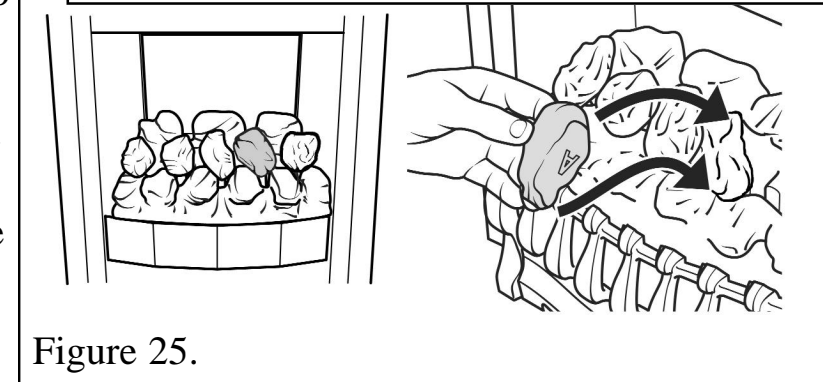

Figure 25.
7. Place the remaining type “A” coal between the front and rear base coals. The letter “A” should be upside down with its rear face between the right and centre coals of the rear base coal. Angle the coal so that the gap between it and the type “B” coal to its right is appreciably larger than the gap between it and the type “A” coal to its left but do not have it touching the type “A” coal. This will give the best flame effect (See figure 25).